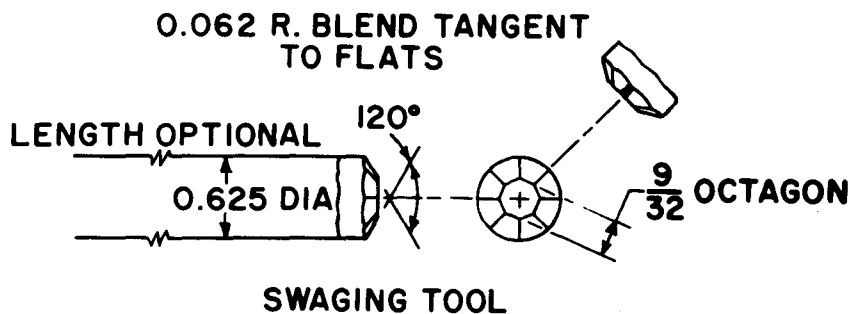

Fig. VI-22. High-range planetary carrier assembly—cross section
a. Disassembly (A, foldout 11, and fig. VI-22)
(1) Position carrier assembly 1 (A, foldout 11), hub upward, on a drill press table.
c. Assembly (A, foldout 11, and fig. VI-22)
(8) Repeat procedures (3) through (7), above, for the remaining pinion groups. Align the pinion groups in the carrier by inserting the alining tool into each spindle bore.
(9) Press new spindles through the carrier and pinions until they project 0.092 inch from the inner ends of the countersinks at the rear of the carrier (see inset detail of fig. VI-22).
(10) Stake both ends of the spindles into the countersinks of the carrier. Refer to fig. VI-22 for details of fabricating the staking punch.
(6) Remove seal 15 (and expander 18, if used) from piston 16. Refer to para 16a(7) and (8), above.
c. Assembly (B, foldout 11, and fig. VI-22)
(1) A pinion alining tool described in 17c(2), above, is required for operations described below.
(2) Coat the bore of each pinion with oil-soluble grease.
(3) Holding an alining tool in one hand, install a thrust washer 9 (B, foldout 11) and then pinion 10 onto the alining tool.